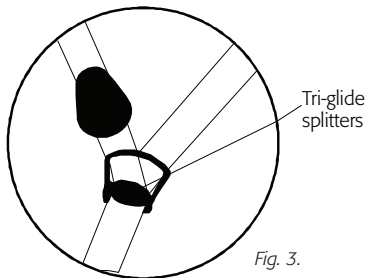

Fig. 3.
- The tri-glide splitter as shown in *Fig. 3* is a key component for orientating the helmet. Adjust the tri-glide splitters on each side of the helmet so that the left strap and right strap come together just under the earlobes.